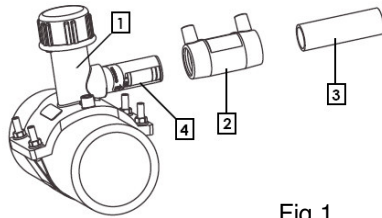

Fig.1
2. **Connect the service line to the outlet of the Tapping-tee [1] (Fig.1) CHECK FLOW DIRECTION ON THE LABEL**